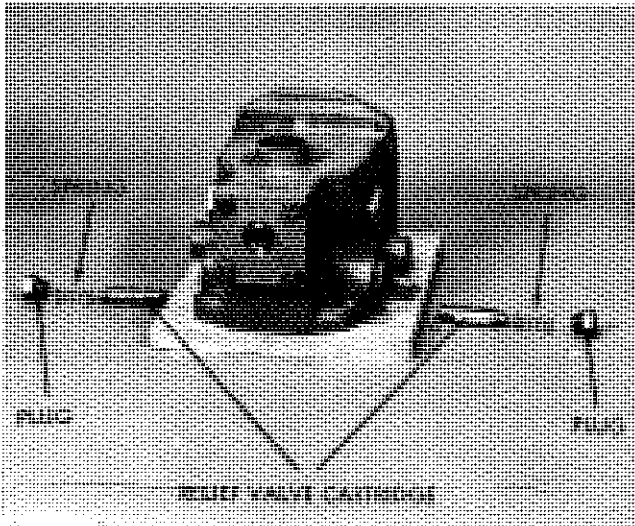

Figure VI-10. Removal of Replenishing High Pressure Relief Valves (2)
4. Removal of Replenishing High Pressure Relief Valve (2) (Figure VI-10)